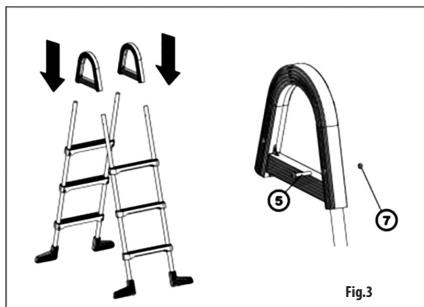

Fig. 3
Slide the assembled ladders into the arcs (2) (**Fig. 3**) and secure them with appropriate screws (5) taking care of their proper orientation (screw heads shall face outwards of the treads).